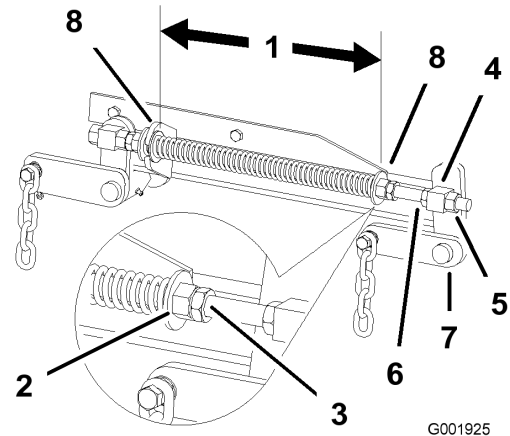

Figure 63
2. Check the distance between the two large washers, it needs to be 11-1/8 inches (28.2 cm) for 52 inch mower decks and 10-1/2 inches (26.7 cm) for 60 inch mower decks (Figure 63).
3. Adjust this distance, by loosening the spring jam nut and turning the nut in front of each spring (Figure 63).
4. Lock the nut into position by tightening the spring jam nut (Figure 63).